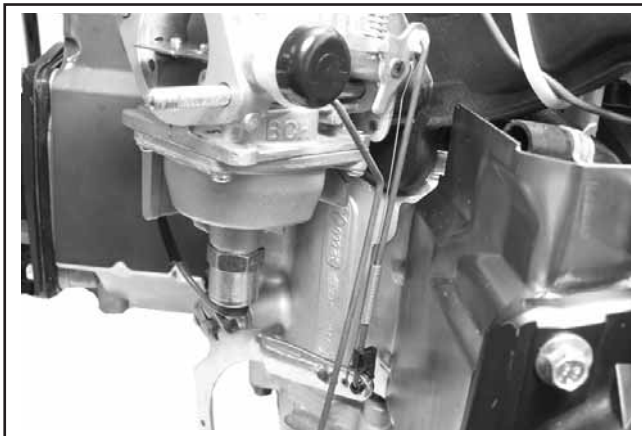

Figure 10-69. Linkage Details.
2. Make sure the throttle linkage is connected to the governor lever and the throttle lever on the carburetor. Connect the choke linkage to carburetor choke lever. See Figure 10-69.